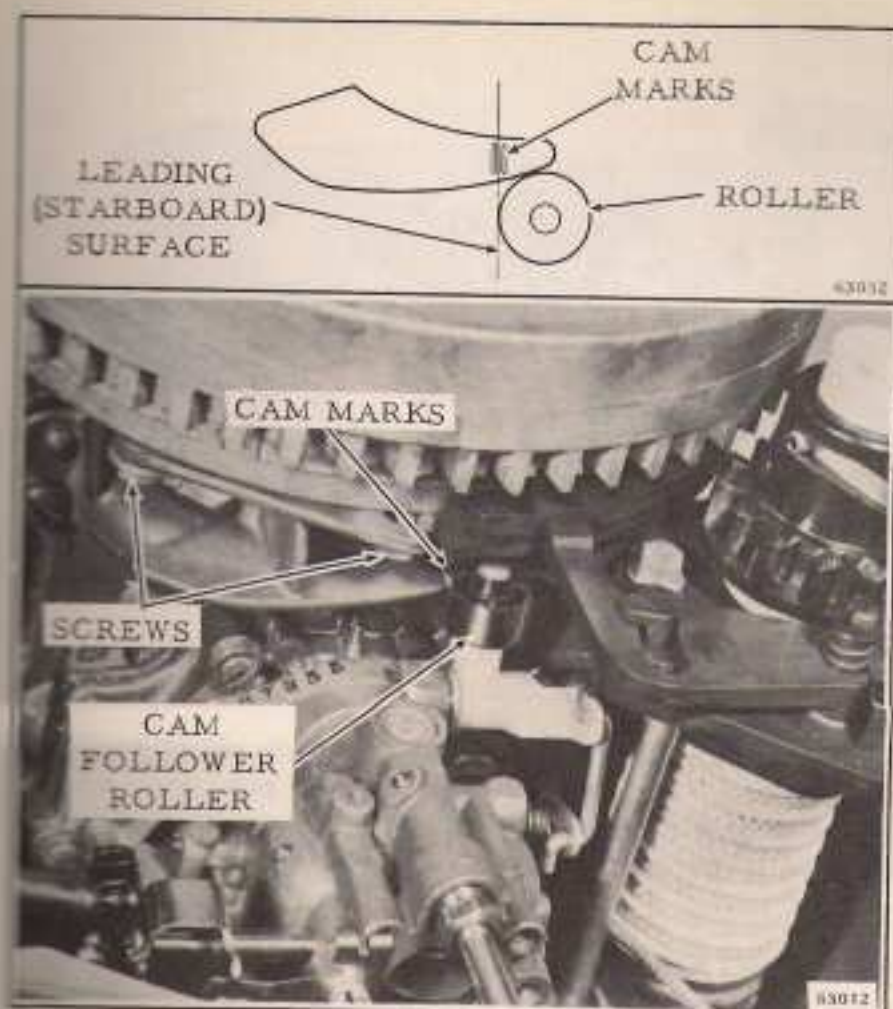

Figure 3-19. Throttle Cam Adjustment
- To adjust throttle cam, advance throttle control to the position where the cam follower roller leading (starboard) surface is between the two marks on the throttle cam. See Figure 3-19. At this point the throttle valve should be closed. If it does not, adjust as follows:
- Advance throttle control. Marks on throttle cam must be directly behind round starboard surface of cam follower. See Figure 3-19 insert.
- Loosen the hex head screws holding the cam to the armature base. See Figure 3-19. Push cam back towards rear of motor, then pull cam forward until it contacts cam follower. (Choke knob must be all the way in.)